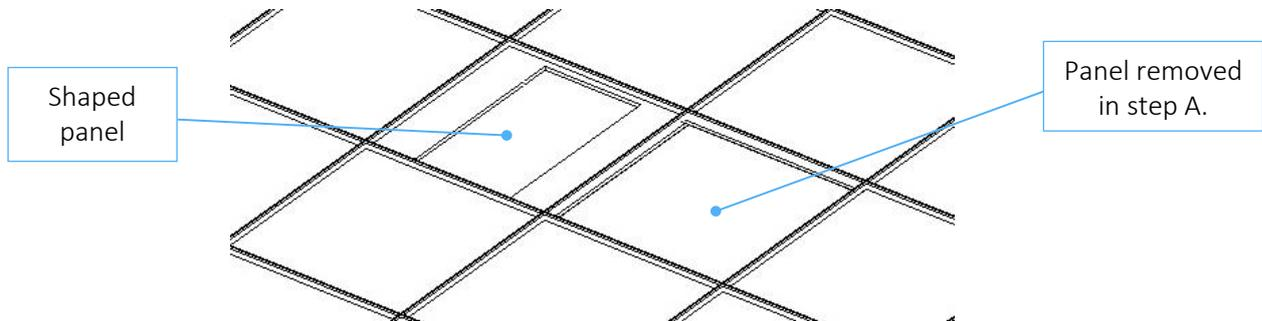

Fig. 10 *Mounting for false ceiling 60x60: step B.*
- B. Shape one of these into a window (in the centre of the panel) measuring 552x332 mm and replace it in the module chosen (Figure 10).